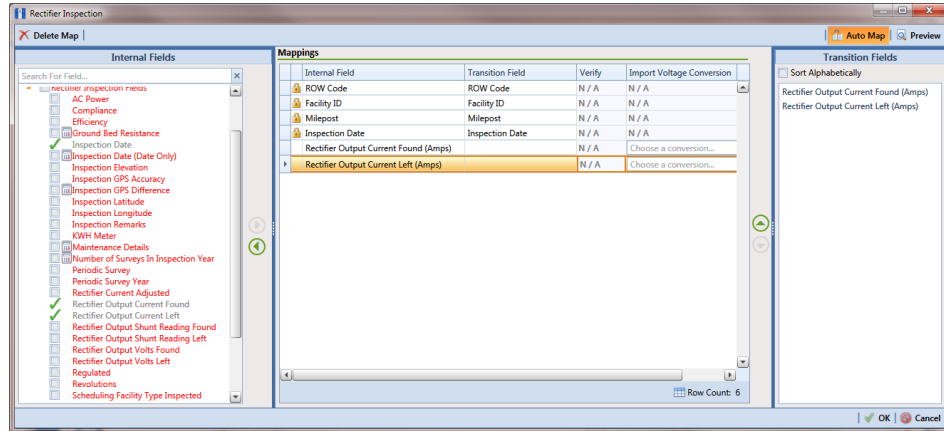

Figure 10-9. Field Mappings
- a** Click  **Edit** in the *Maps* group box to open a field mapping window (Figure 10-9).
NOTE: Fields in the *Mappings* panel with a lock icon  are required fields for mapping, such as *ROW Code*, *Milepost*, *Facility ID*, and *Inspection Date* shown in Figure 10-9.
- b** Select PCS Axis fields for mapping. Click the  toggle arrow for a field category in the *Internal Fields* panel to view a list of available fields. For example, *Rectifier Inspection Fields* is selected in Figure 10-9.
For example, the PCS Axis fields *Rectifier Output Current Found (Amps)* and *Rectifier Output Volts Found (Volts)* are selected for mapping in Figure 10-9.